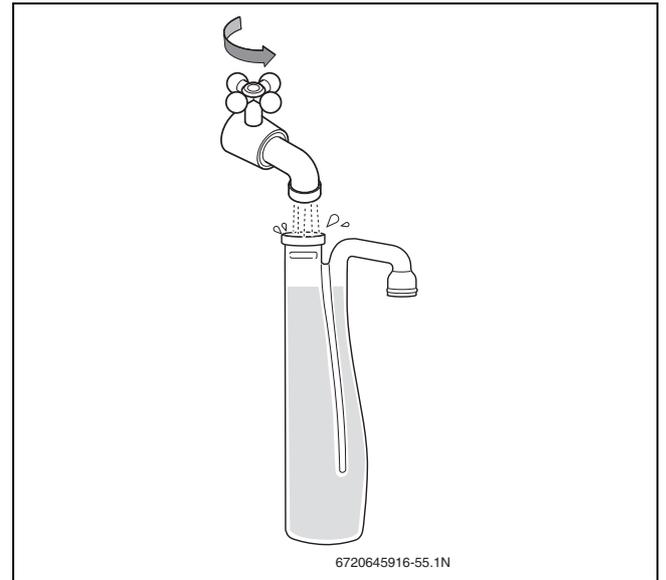

Fig. 59 Filling the condensate trap with water
- ▶ Fill the condensate trap with water (→ fig. 59). For disconnecting the condensate trap (→ § 12.3.5, page 43).